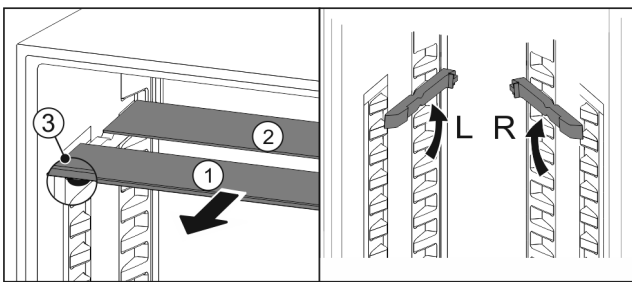

Fig. 77
- ▶ Pull the glass panels out Fig. 77 (1) from the front, one at a time.
- ▷ The glass panel Fig. 77 (1) and trim strip are at the front.
- ▷ The stops Fig. 77 (3) point down.